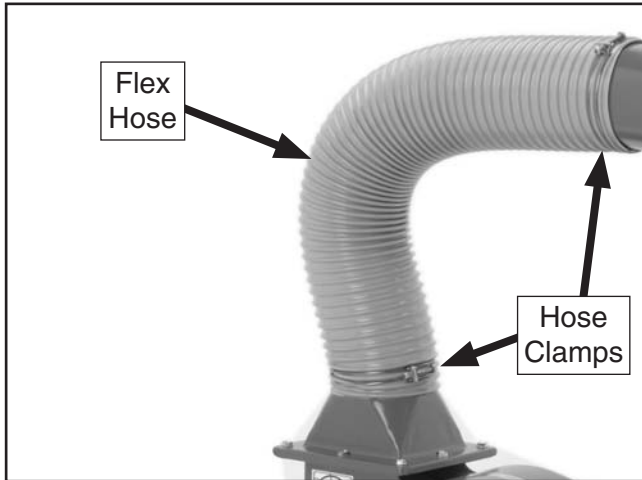

Figure 29. Attaching flex hose onto collector body outlet.
- Slip a loosened hose clamp over each end of the flex-hose, and position the hose ends over the outlets, as shown in **Figure 29**. Tighten each hose clamp until snug.